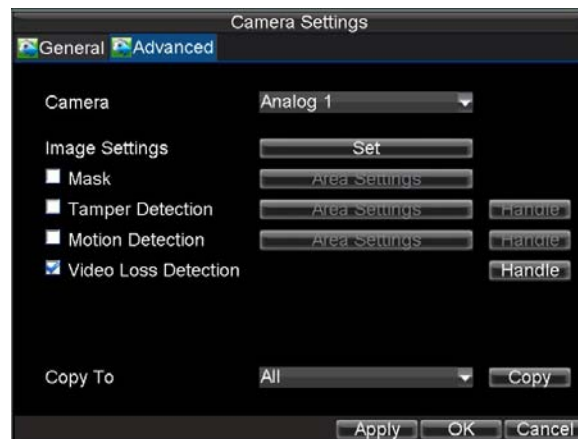

Figure13. Camera Settings Menu
4. Check the **Video Loss Detection** checkbox to enable this feature, as shown in Figure 13.